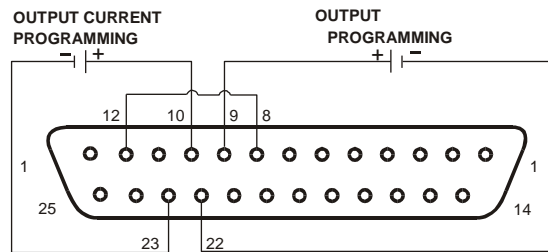

Fig. 7-1: Remote voltage programming connection
- f) Connect the programming sources to the mating plug of J1 as shown in Fig.7-1. Observe the correct polarity for the voltage source.